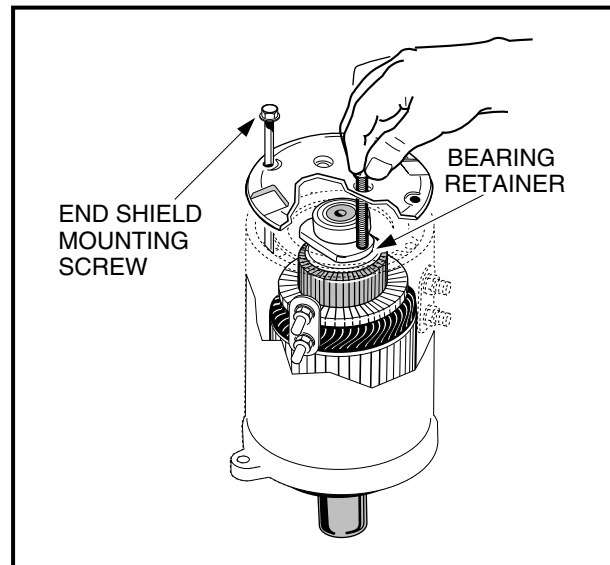

Figure 15-13 End Shield Installation
**NOTE:** Use a long screw with the same thread specifications as the mounting screws to maintain hole alignment while starting the first mounting screw (**Figure 15-13, Page 15-11**).